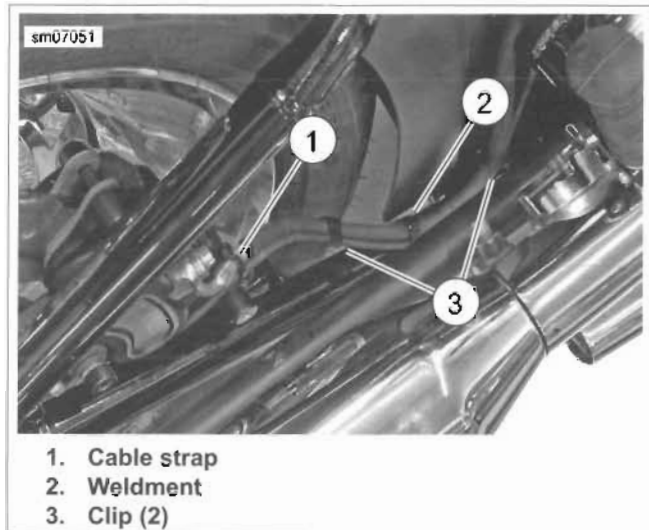

Figure 7-95. WSS cable Routing
4. See Figure 7-95. Remove cable strap (1) and both clips (3).
2. See Figure 7-95. Install cable strap (1) and both clips (3).